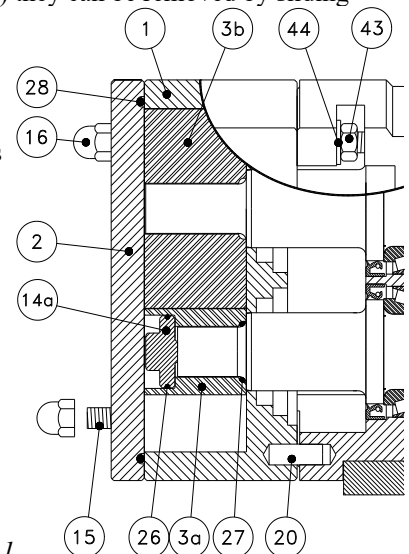

Figure 4.4.1
Loosen the **Stud Nuts (item 43 in Figure 4.4.1)**. Remove the **Rotor Housing** by pulling on the ports or by tapping gently with a rubber mallet. Do not rock the **Rotor Housing** back and forth excessively. The seals may break. The **Seal Retaining Rings**, the **Bolts**, the **Stationary Seal Faces**, and the **Stationary Seal O-Rings** will all come off with the **Rotor Housing**. Unscrew the **Bolts** to remove the **Seal Retaining Rings**, the **Stationary Seal Faces**, and the **Stationary Seal O-Rings**. Slide the **Rotating Seal Faces** and the **Rotating Seal O-Rings** off the shafts. To avoid damage, handle and store the loose **Stationary Seal Faces** and **Rotating Seal Faces** so that their lapped sealing surfaces do not get scratched. If not being replaced, the **Drive Collars** may remain on the shafts, otherwise loosen the set screws and slide them off the shafts. UNIBLOC-PD 500 Series may use wear sleeves. See section 4.4.4.1 sketch.
Remove the **Shaft O-rings** (item 27 in Figure 4.4.1) located behind the shaft splines. Use two long flat head screwdrivers 180° apart to pry the **Shaft Sleeve** out of the **Rotor Housing**. Use razor blade or sharp flat head screwdriver to remove the **Rotating Seal Face** from the **Shaft Sleeve**. Remove **Stationary Seal Face** from **Seal Retaining Ring** by hand.
Place the **Rotating Seal O-Ring** on the stepped side of the **Rotating Seal Face** and lubricate. While aligning the **Rotating Seal Face** pin slots with the Shaft sleeve pins, hand press the **Rotating Seal Face** into the **Shaft Sleeve** until fully seated. Lubricate the **Shaft Sleeve O-Ring** located in the inner diameter of the **Shaft Sleeve**. Aligning the pin slots on the **Shaft Sleeve** with the pins on shaft (item 90 in Figure 4.4.1), hand press the Shaft Sleeve (with Rotating Seal installed) evenly until seated and spring tension can be felt. Spring tension will be set by installation of rotor onto shaft.
Place the **Rotating Seal O-Ring** on the stepped side of the **Rotating Seal Face** and lubricate. While aligning the **Rotating Seal Face** pin slots with the Shaft sleeve pins, hand press the **Rotating Seal Face** into the **Shaft Sleeve** until fully seated. Lubricate the **Shaft Sleeve O-Ring** located in the inner diameter of the **Shaft Sleeve**. Aligning the pin slots on the **Shaft Sleeve** with the pins on shaft (item 90 in Figure 4.4.1), hand press the Shaft Sleeve(with Rotating Seal installed) evenly until seated and spring tension can be felt. Spring tension will be set by installation of rotor onto shaft.
Disconnect the flush tubing from the flush housings (55). Loosen the set screws (D) by inserting an allen wrench into the flush housing port holes. Loosen the stud nuts (item 43 in Figure 4.4.1). Remove the rotor housing (1) by pulling on the ports or by tapping gently with a rubber mallet and lay it rotor cavity down so that the seals face up. Do not rock the housing back and forth excessively or let it come in contact with the shaft splines. The seals may break. The entire seals with the flush housings will come off intact with the rotor housing. Unscrew the bolts (32) to remove the flush housings (55), the lip seals (56), and the flush housing o-rings (37). The remaining seal components may now be removed. To avoid damage, handle and store the loose seal nose rings (B) and the mating rings (A) so that their lapped sealing surfaces do not get scratched. To remove the lip seals (56), place the flush housings so that they are supported at the bolt holes not at the o-ring (37) location. This can be done by placing the flush housings, after all other seal parts have been removed, back into the rotor housing seal bores. Push or tap the lip seals with a tube to remove them.
Disconnect the flush tubing from the **Flush Housings**. Loosen the **Drive Collar** set screws by inserting an allen wrench into the flush housing port holes. Loosen the stud nuts (item 43 in Figure 4.4.1). Remove the rotor housing (item 1 in Figure 4.4.1) by pulling on the ports or by tapping gently with a rubber mallet and lay it rotor cavity down so that the seals face up. Do not rock the housing back and forth excessively or let it come in contact with the shaft splines. The seals may break. The entire Seal Package, with the Flush Housings attached, will come off with the rotor housing. Unscrew the **Bolts** to remove the **Flush Housings**, the **Stationary Seal Faces (secondary)**, **Flush Housing O-Rings**, and **Stationary Seal O-Rings (secondary)**. The remaining seal components may now be removed. To avoid damage, handle and store the loose Seal Faces so that their lapped sealing surfaces do not get scratched. Remove the **Stationary Seal Faces (primary)** by pulling them out of the rotor housing seal bores. Remove the **Stationary Seal Faces (secondary)** by pushing them out of the **Flush Housings**.
If using a flushing system as discussed in section 3.3, disconnect it from the **Flush Housings**. Loosen the stud nuts (item 43 in Figure 4.4.1). Remove the **Rotor Housing** by pulling on the ports or by tapping gently with a rubber mallet. All seal parts will come off with the housing. Remove the **Flush Housings** by unscrewing the **Bolts**. The **Retaining Ring O-Rings** and **Seal O-Rings** can now be removed.